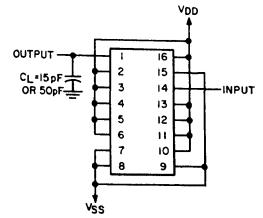

Fig. 15 - t_{PLH} - NAND.
* Max. Limits represent worst-case limits for worst-case modes of operation shown in Figs. 15, 16, and 17.